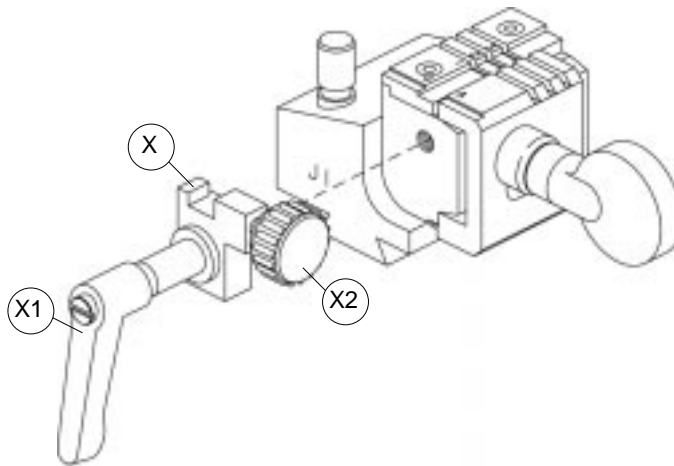
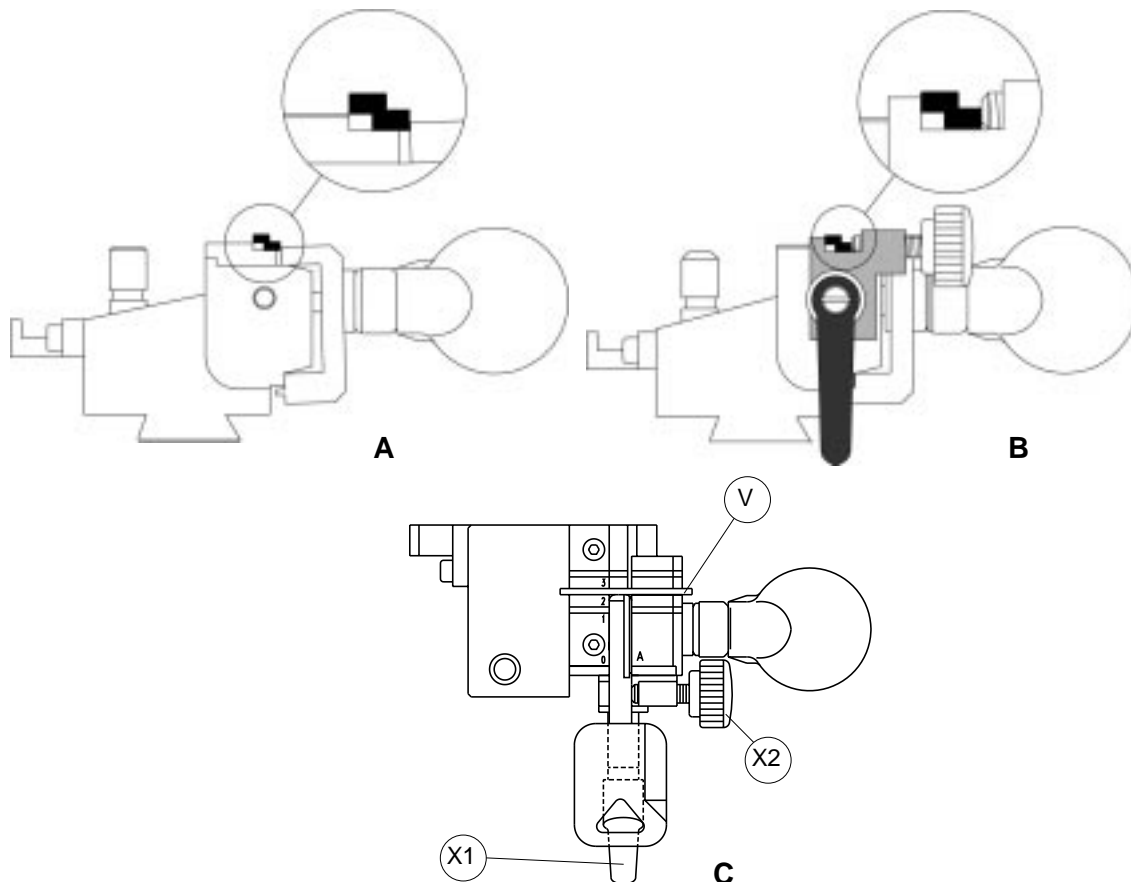

Fig. 20
Fig. 21
The machine is provided with a device (X) (fig. 20) to use with keys which are difficult for the jaws to grip because of the dimensions of the blade and profile (see art. Silca HU56RP for Volvo, fig. 21). The device is installed in the threaded hole on the front of the "J1" clamp. Use the locking knob (X1) to take it up to the clamp, without securing; **the knob (X1) will be tightened only after the key has been locked into the jaw in the way described below:**